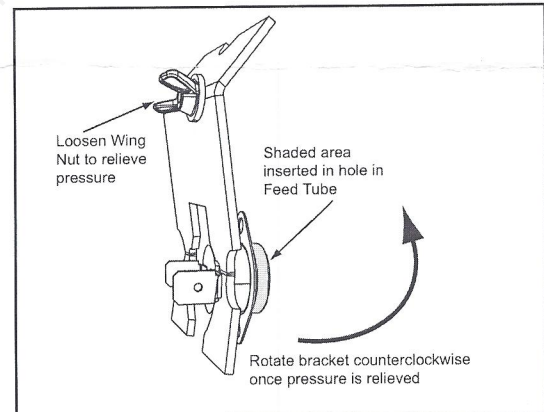

Figure 8
17. Loosen wing nut to relieve the pressure on snap disc from the bracket. The shaded area of the snap disc is inserted into a hole in the feed tube. **NOTE:** You may need pliers to start the wing nut. **Figure 8.**